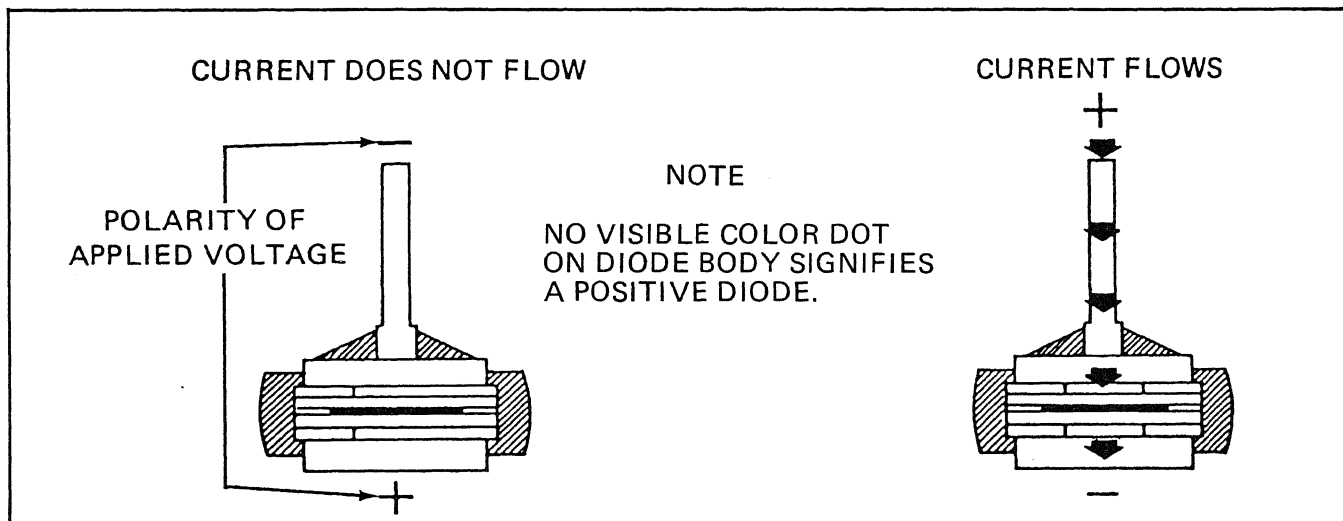

Figure 5-28.22. Positive Diode Tests
- (a) When using a 12VDC test lamp or ohmmeter, the same test points are used. All diodes in the positive heat sink, where the part number is printed in RED, should test as indicated in Figure 5-28.22.